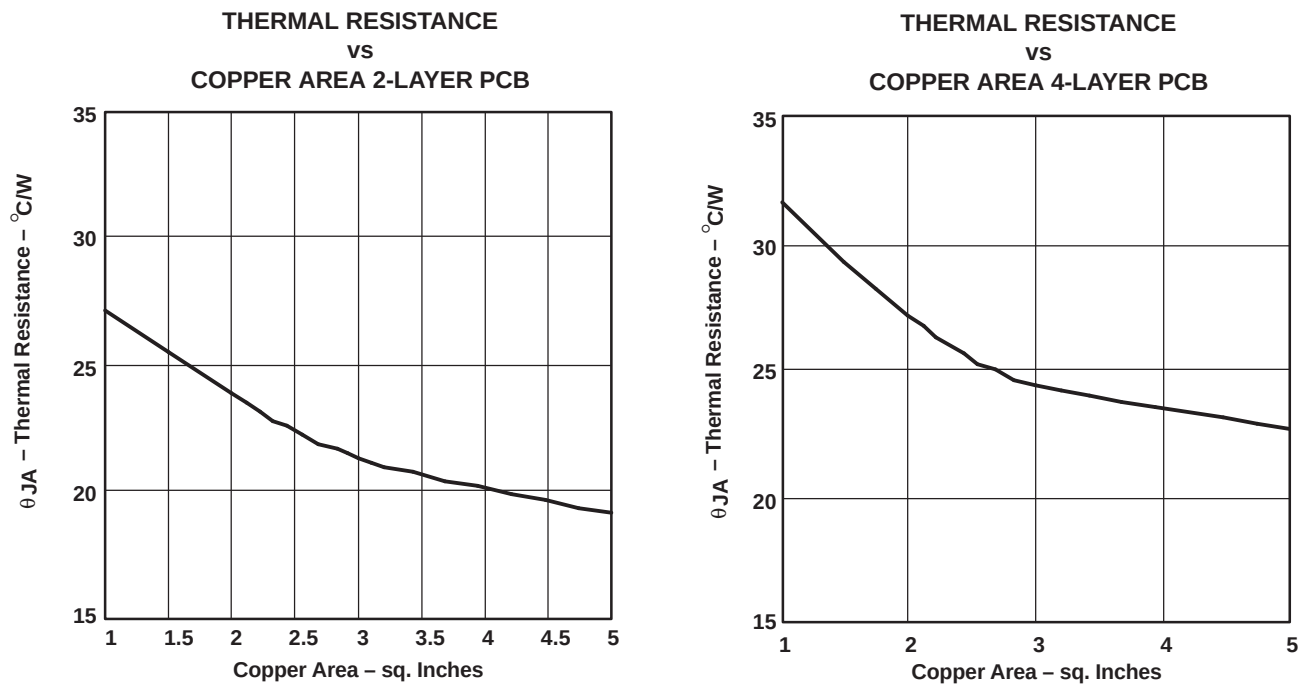
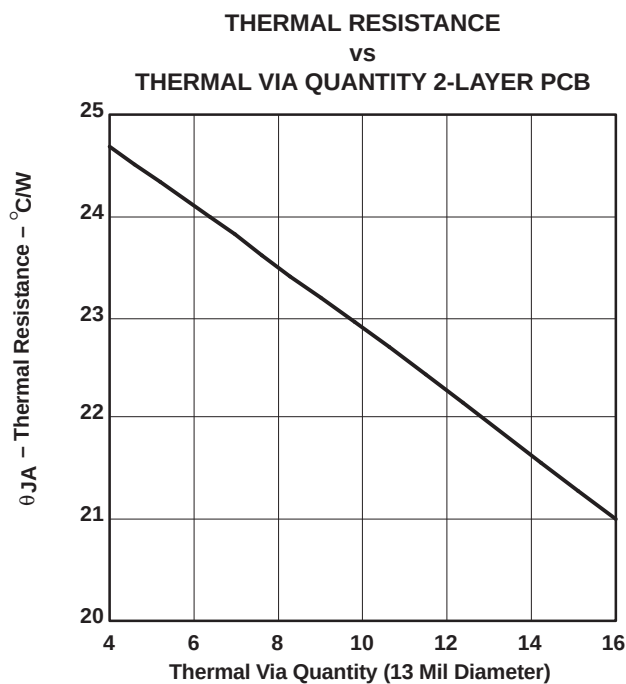

Figure 47. Thermal Resistance
Figure 48. Thermal Resistance
$\theta_{JA} = 19^\circ\text{C/W}$ 2-Layer PCB, 5 sq. in. copper, see Figure 47. (8)
Figure 47 and **Figure 48** show the results of several thermal experiments conducted with the TPA3004D2. Both figures show that the best thermal performance can be achieved with more copper area for heat dissipation and an adequate number of thermal vias.
Figure 47 shows two curves for a 2-layer and 4-layer PCB. The 2-layer PCB layout was tightly controlled with a fixed amount of 2 oz. copper on the bottom layer of the PCB. The amount of copper is shown on the x-axis. Nine thermal vias of 13 mil (0.33mm) diameter were drilled under the PowerPad and connected to the bottom layer. The top layer only consisted of traces for signal routing.
Figure 48 shows the effect of the number of thermal vias drilled under the PowerPad on the thermal performance of the PCB. The experiment was conducted with a 2-layer PCB and 3 square inches of copper on the bottom layer. For the best thermal performance, at least 16 vias in a 4x4 pattern should be used under the PowerPad. Refer to the TPA3004D2 EVM User's Manual, SLOU115, for an example layout with a 4x4 via pattern. PCB gerber files are available at request.